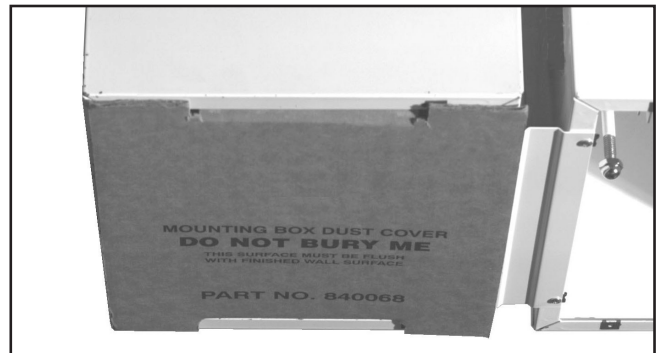

Figure 11
9. Install dust cover(s) on mounting box(es) to prevent dust and debris from entering box during finishing of ceiling (Figure 11).